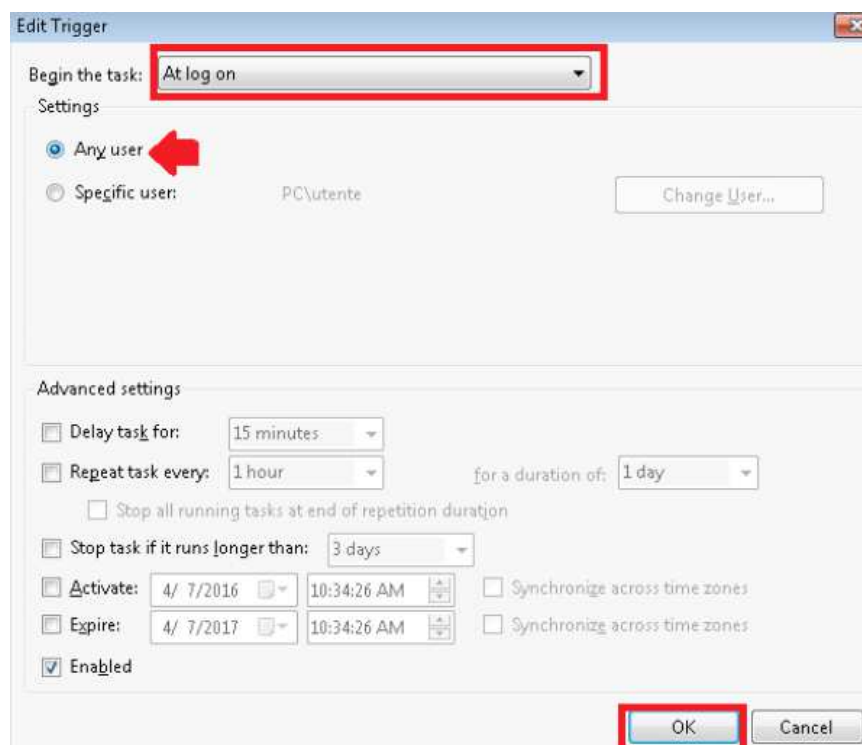

Fig. C.45: Edit Trigger dialog box
STEP 12 – In *Edit Trigger* dialog box please verify that *Begin the task* field is set to *At log on*. In *Settings* section please select *Any user* option and click *OK* to confirm the new settings and to come back to *StartClient Properties* dialog box (Fig. C.45).